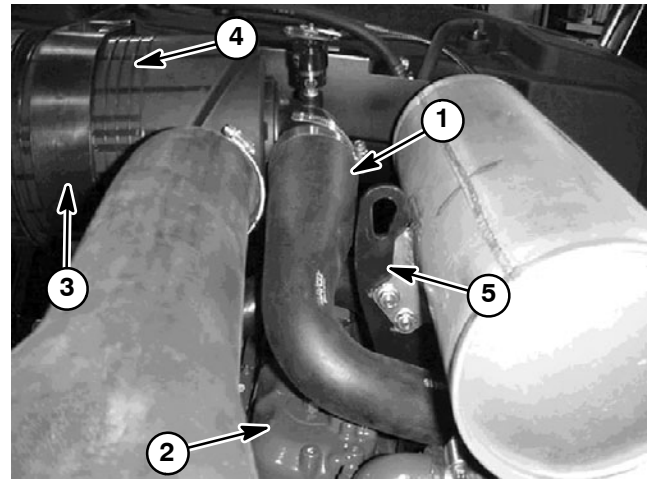

Figure 4
2. When installing air cleaner hose (8) between air cleaner and turbo-charger (Fig. 4):